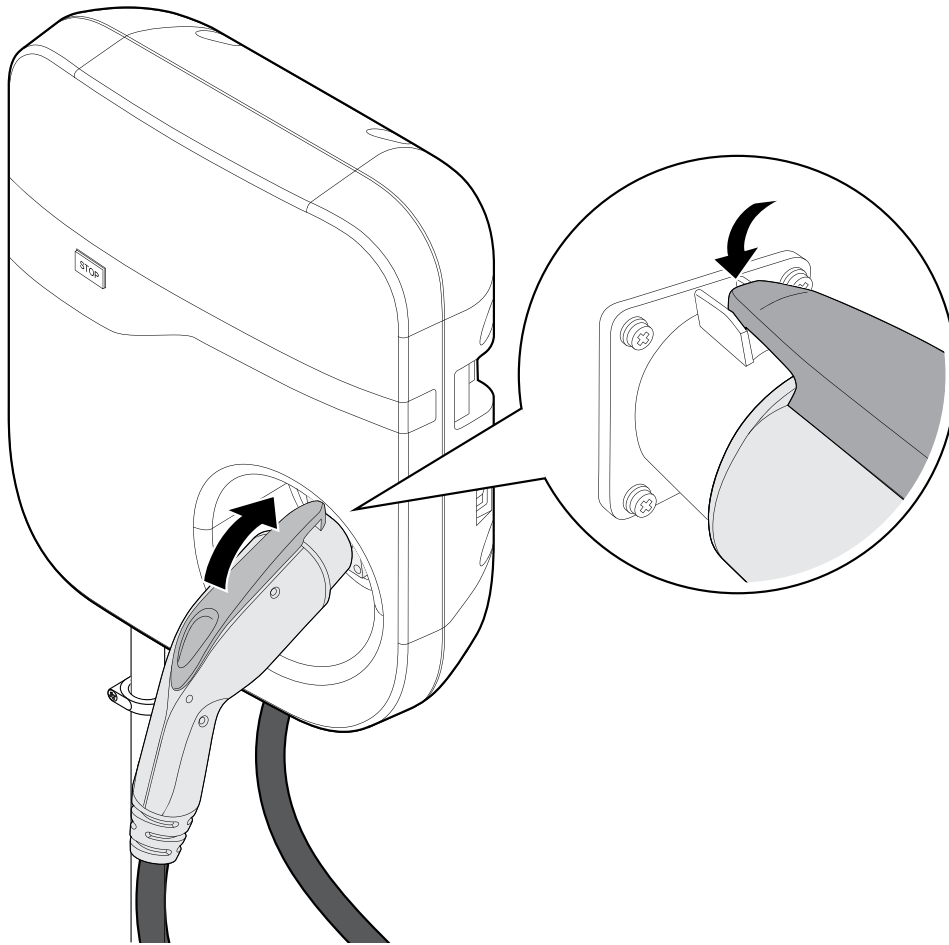

Figure 4-7. Plug attachment with detail of plug dock
7. See Figure 4-7. Secure the charging plug to the Level 2 Charging Station.